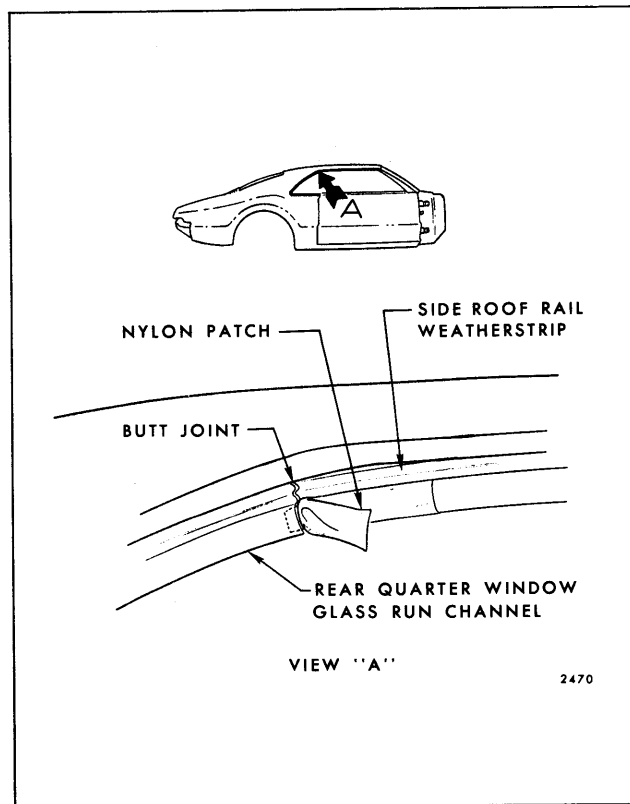

Fig. 6-14—Side Roof Rail Weatherstrip Repair - "E-87" Styles
1. With a sharp implement, sever the vulcanized joint and remove front section of side roof rail weatherstrip as outlined in the preceding procedure. The service weatherstrip is equipped with a nylon patch, half of which is cemented in place (See Fig. 6-14). The other half is to be cemented over the rear section of side roof rail weatherstrip (over quarter window) as directed in step #3.
3. With an approved neoprene cement, install remainder of nylon patch (See Fig. 6-14) to cover butt joint.